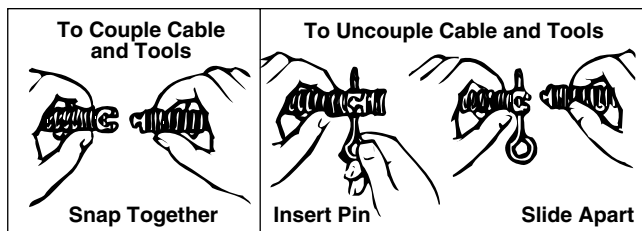

Figure 5 – Coupling and Uncoupling Tools
6. Select and install the proper tool to the end of the cable. The T-Slot Coupler allows the tool to be snapped into the cable coupler (*Figure 5*). To remove tool, use the pin key to depress the plunger and slide the coupling apart.